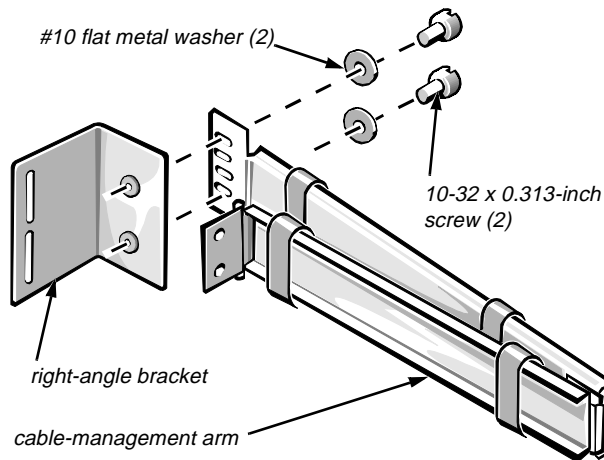

Figure 2-10. Installing the Right-Angle Bracket on the Cable-Management Arm
- 1. Install the right-angle bracket on the end of the cable-management arm (see Figure 2-10).**